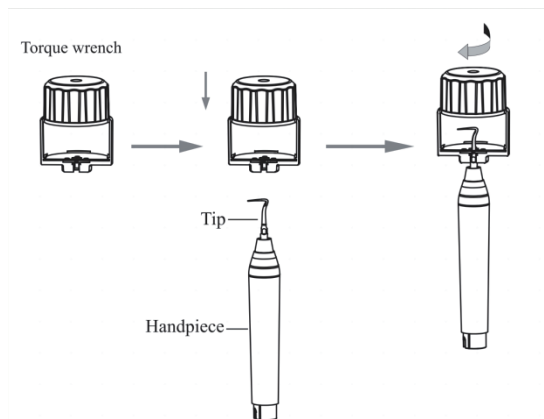

Figure 4
### 3.2 Instructions for Use of Force-Limiting Wrench (See Figure 4)
- a) Take out the force-limiting wrench and assemble and disassemble the Tip as shown in Figure 4;
- b) Install the Tip: Hold the Handpiece tightly, and use the force-limiting wrench to rotate the Tip in the direction shown in Figure 4 until the Tip stops rotating, and then continue to rotate for one turn, so that the Tip is installed;
- c) Unloading tip: Hold the Handpiece tightly, and use the force-limiting wrench to rotate in the opposite direction of the tightening direction as shown in Figure 4 to remove the Tip;
3.3.4 Select a suitable Tip as required and tighten it on the Handpiece with a force-limiting wrench (see Figure 4).
| After electrifying and stepping on the foot switch, the Tip does not vibrate, but water column flows out. | Loose Tip                                                                 | Tighten the Tip (see Figure 4)                                           |